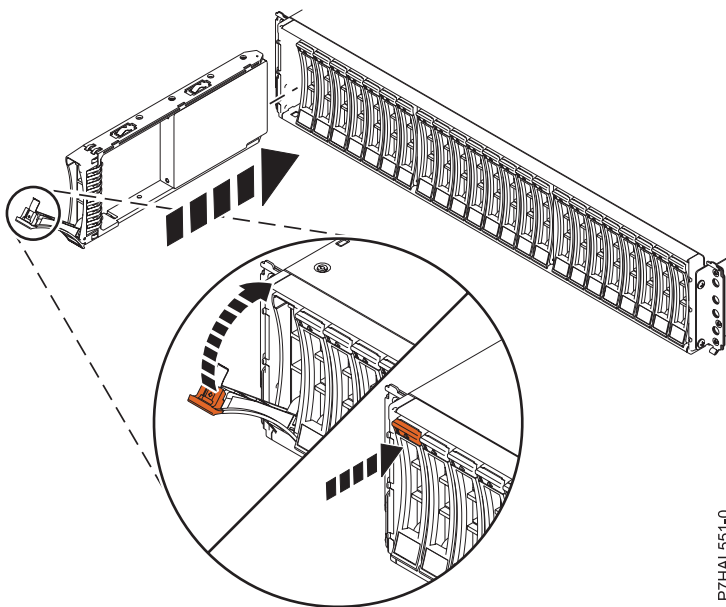

Figure 10. Installing the disk drive in the 58/87 disk drive enclosure
1. With the handle in the unlocked position, as shown in Figure 10, support the bottom of the drive as you align it with the guide rails in the expansion unit.